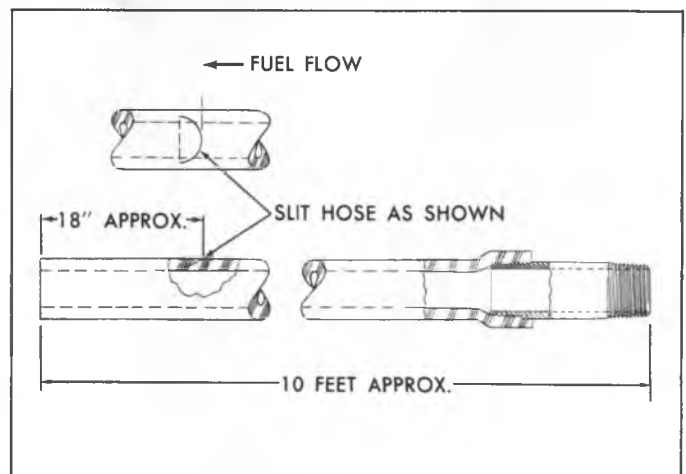

Fig. 1—Siphon Construction
1. Obtain approximately 10 feet of 3/8" I.D. hose and cut a flap-type slit 18" from one end. Make this cut in the direction of the shorter end of hose (See Figure 1).
4. Remove the pitman arm to pitman shaft nut. Mark the relationship of the arm to the shaft and then remove the arm from the shaft using Tool J-6632 or J-5504 (fig. 1).